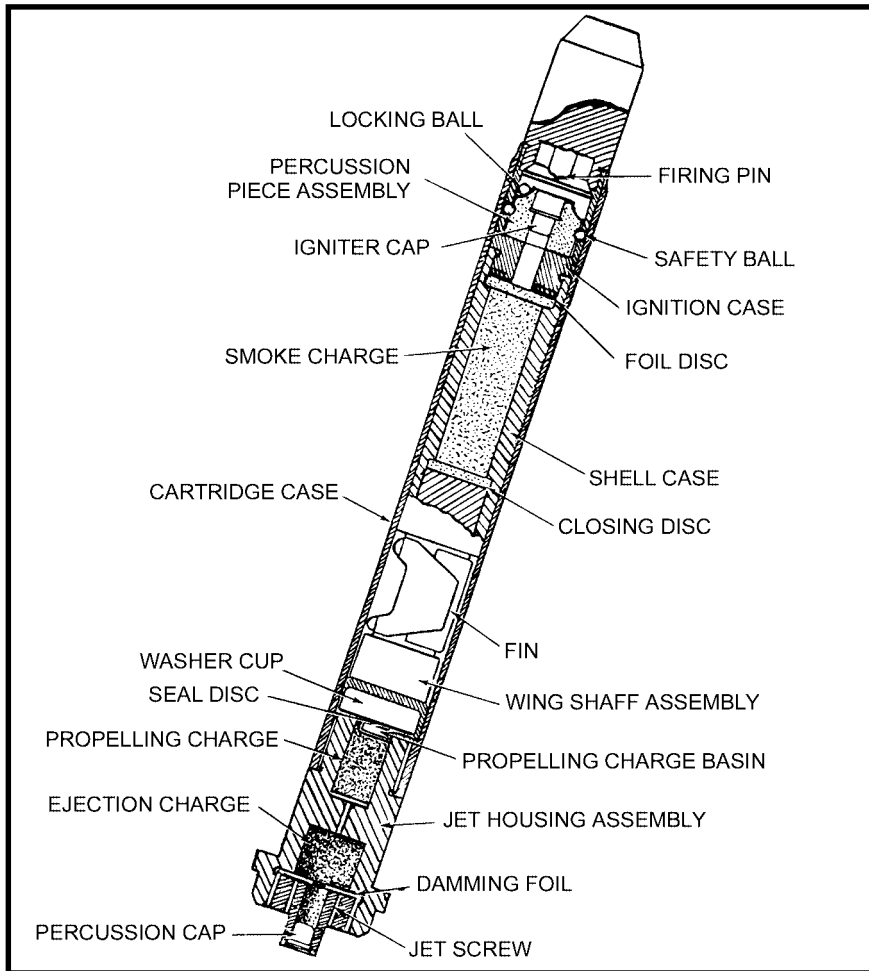
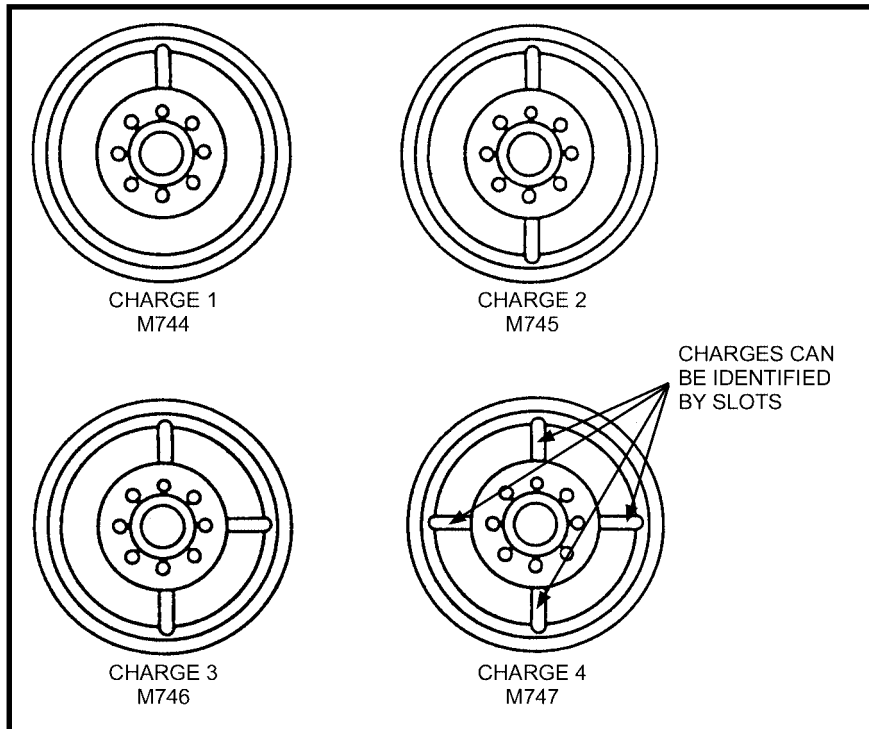

Figure A-14. The 22-mm subcaliber cartridge cross-section.
Figure A-15. Base of subcaliber cartridges—charge one through four.
(1) The sabot body contains a 22-mm smooth-bore barrel to receive the 22-mm subcaliber cartridge, which is loaded before firing. The boom of the sabot has fins similar to the fins of the service ammunition, and the body has pads to guide the sabot as it travels out of the barrel. Upon firing, the loaded sabot is ejected from the barrel; the sabot lands on the ground within 15 meters of the mortar while the subcaliber projectile continues its flight to the impact area.
(2) When not loaded with a subcaliber cartridge, the sabot can be used as a dummy round for crew drill or the squad leader can “load” it with an expended cartridge case to induce a “misfire.” The sabot can be reloaded and fired repeatedly for training. It is stored without the subcaliber cartridge in a packing box containing three sabot devices.
b. **The 22-mm Subcaliber Cartridge.** The 22-mm subcaliber cartridges (Figure A-14, page A-14) are boxed and issued by charge: M744, charge one; M745, charge two; M746, charge three; M747, charge four. The charges can readily be identified day or night by the number of slots in the base of the subcaliber cartridge case (Figure A-15, page A-15).
(1) The 22-mm cartridge consists of the projectile with stabilizer fins and cartridge case. The projectile body contains the impact fuze and a smoke signal charge. The propelling and ejection charges are contained in two separate chambers located in an assembly threaded onto the base of the cartridge case. A flash hole between the chambers permits ignition of the propelling charge by the ejection charge.
(2) When the 22-mm subcaliber cartridge is inserted into the sabot, the sabot is ready for firing. The protective plastic cap covering the percussion cap of the subcaliber cartridge is removed before dropping the sabot into the mortar barrel. When fired, the cartridge’s percussion cap strikes the firing pin and is ignited. The percussion cap ignites an ejection